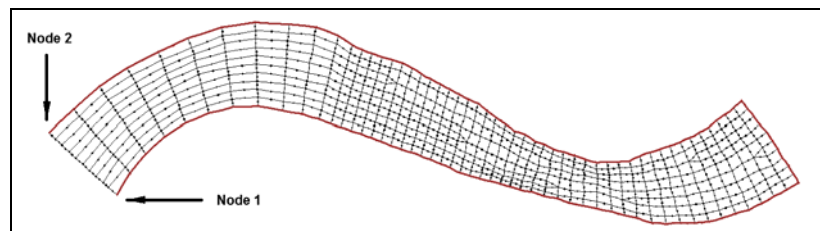

Figure 8-10 The nodestring to create for smoothing.
2. Click the node labeled *Node 1* in Figure 8-10.
3. Hold the *CTRL* key and double-click the node labeled *Node 2* in Figure 8-10. When holding the *CTRL* key, SMS creates a nodestring counter-clockwise around the mesh boundary from the first node to the second node.